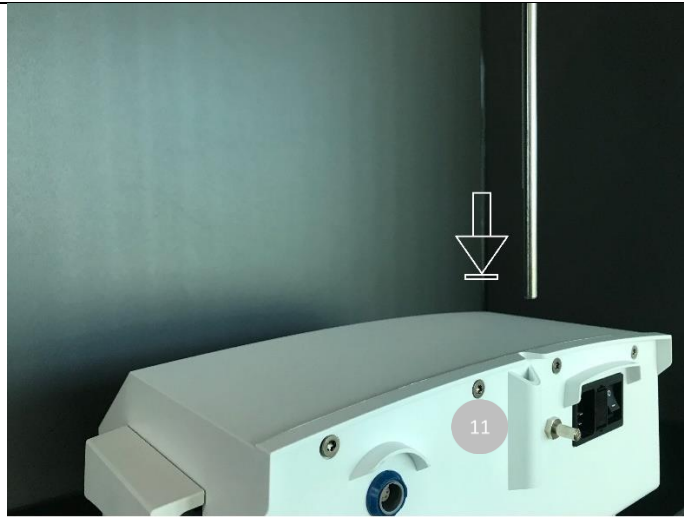

fig. 4
- G. Align and attach the bracket to the housing provided on the console's rear (11) and suspend the irrigation solution flask or bottle **fig. 4**.